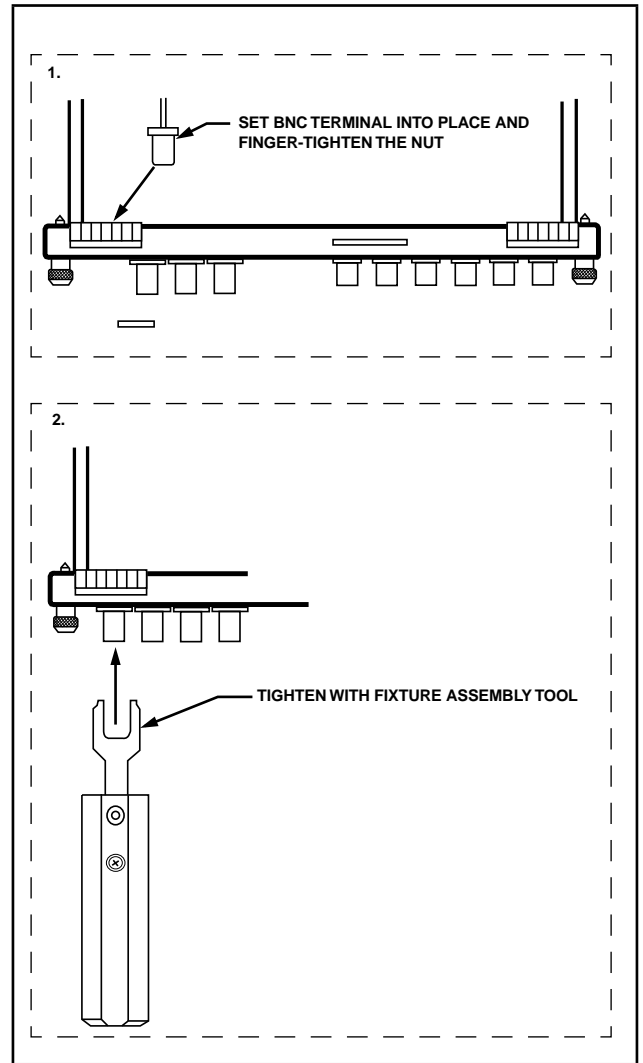

Figure 1
1. Set the BNC terminal into place and finger-tighten the nut for the BNC terminal. See Figure 1.